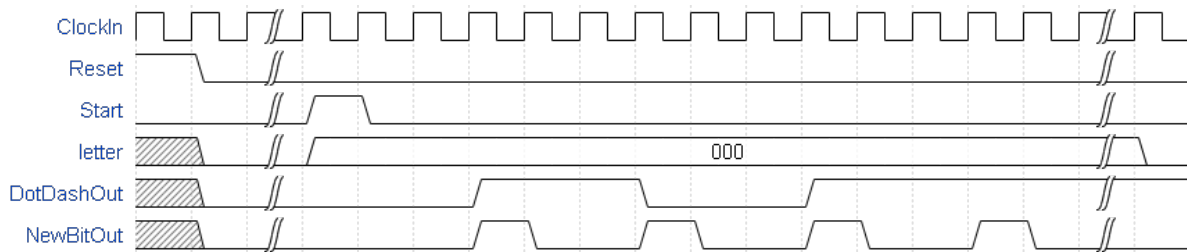

Figure 3: Timing diagram for Part 3
Figure 3 shows a timing diagram of how your circuit should operate, for the letter A. The letter is selected by the `Letter` input using 000 for A, 001 for B, etc. The Morse code for
the letter is output when the **Start** signal is asserted, for 1 clock period. Figure 3 shows the first 4 bits of *A* being flashed, for a very low clock frequency. Using the clock in the marker or the FPGA will cause the **DotDashOut** signal to stay 0 or 1 for many more clock cycles.
1. There maybe many cycles between **Reset** being de-asserted and **Start** being asserted. This is shown with the two wavy lines in Figure 3.